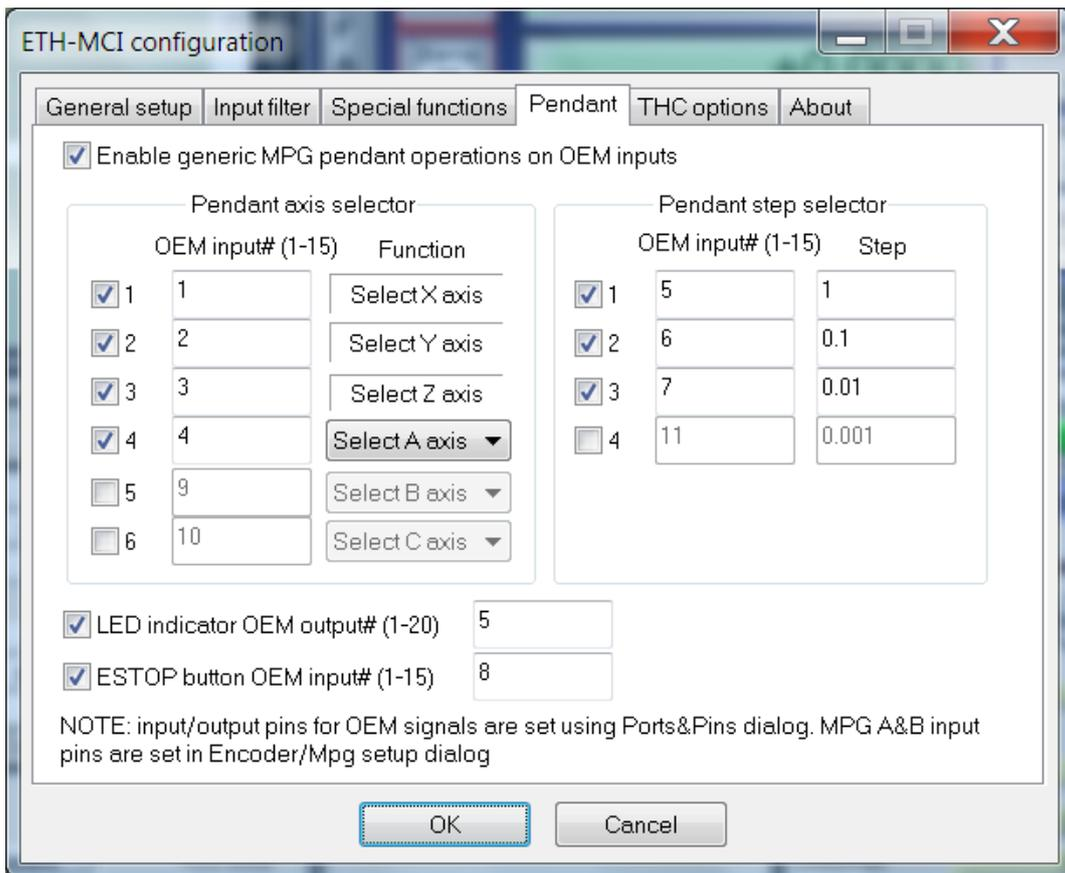

Figure 10.19 An example setup of functions for pendant with 4 positions for axis selector switch and 3 positions for step selector switch
Options for pendant functions can be adjusted using ETH-COMPACT configuration dialog box. Options for Pendant are located in the Pendant tab (Figure 10.19).
Available options (Figure 10.19) are:
- Pendant step selector – this option group enables setting up pendant step selector (Figure 10.19). Maximally 4 positions are supported for step selector. OEM input# and Step fields enable setting up OEM input and step value for each position.